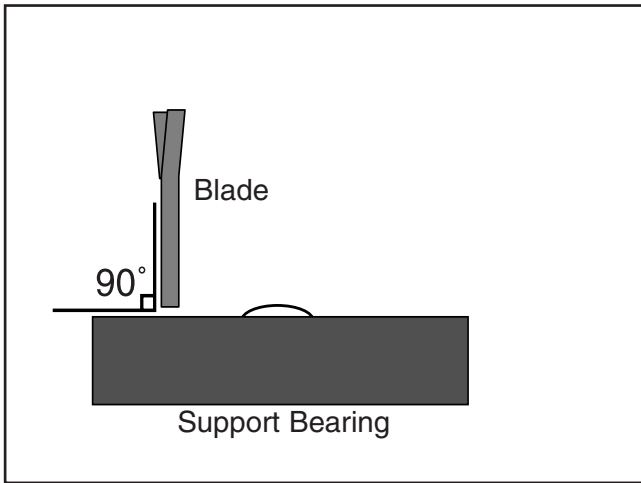

Figure 27. Illustration of blade set perpendicular (90°) to the support bearing face.
- Loosen the guide block assembly cap screws and rotate the blade guide assembly side-to-side, until the blade is perpendicular with the face of the support bearing, as illustrated in **Figure 27**.
5. Make sure that the blade is perpendicular to the face of the support bearing, as illustrated in **Figure 27**.